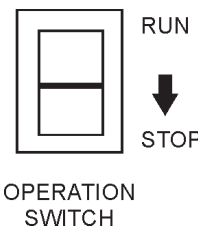

Figure 23. Operation Switch (Stop)
3. Place the **operation switch** (Figure 23) in the **STOP** position.
1. Place the **operation switch** (Figure 23) in the **STOP** position.